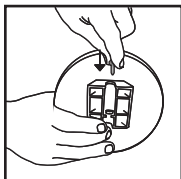

FIGURE 10
13. Insert screw provided through back of axle housing. **FIGURE 10.**